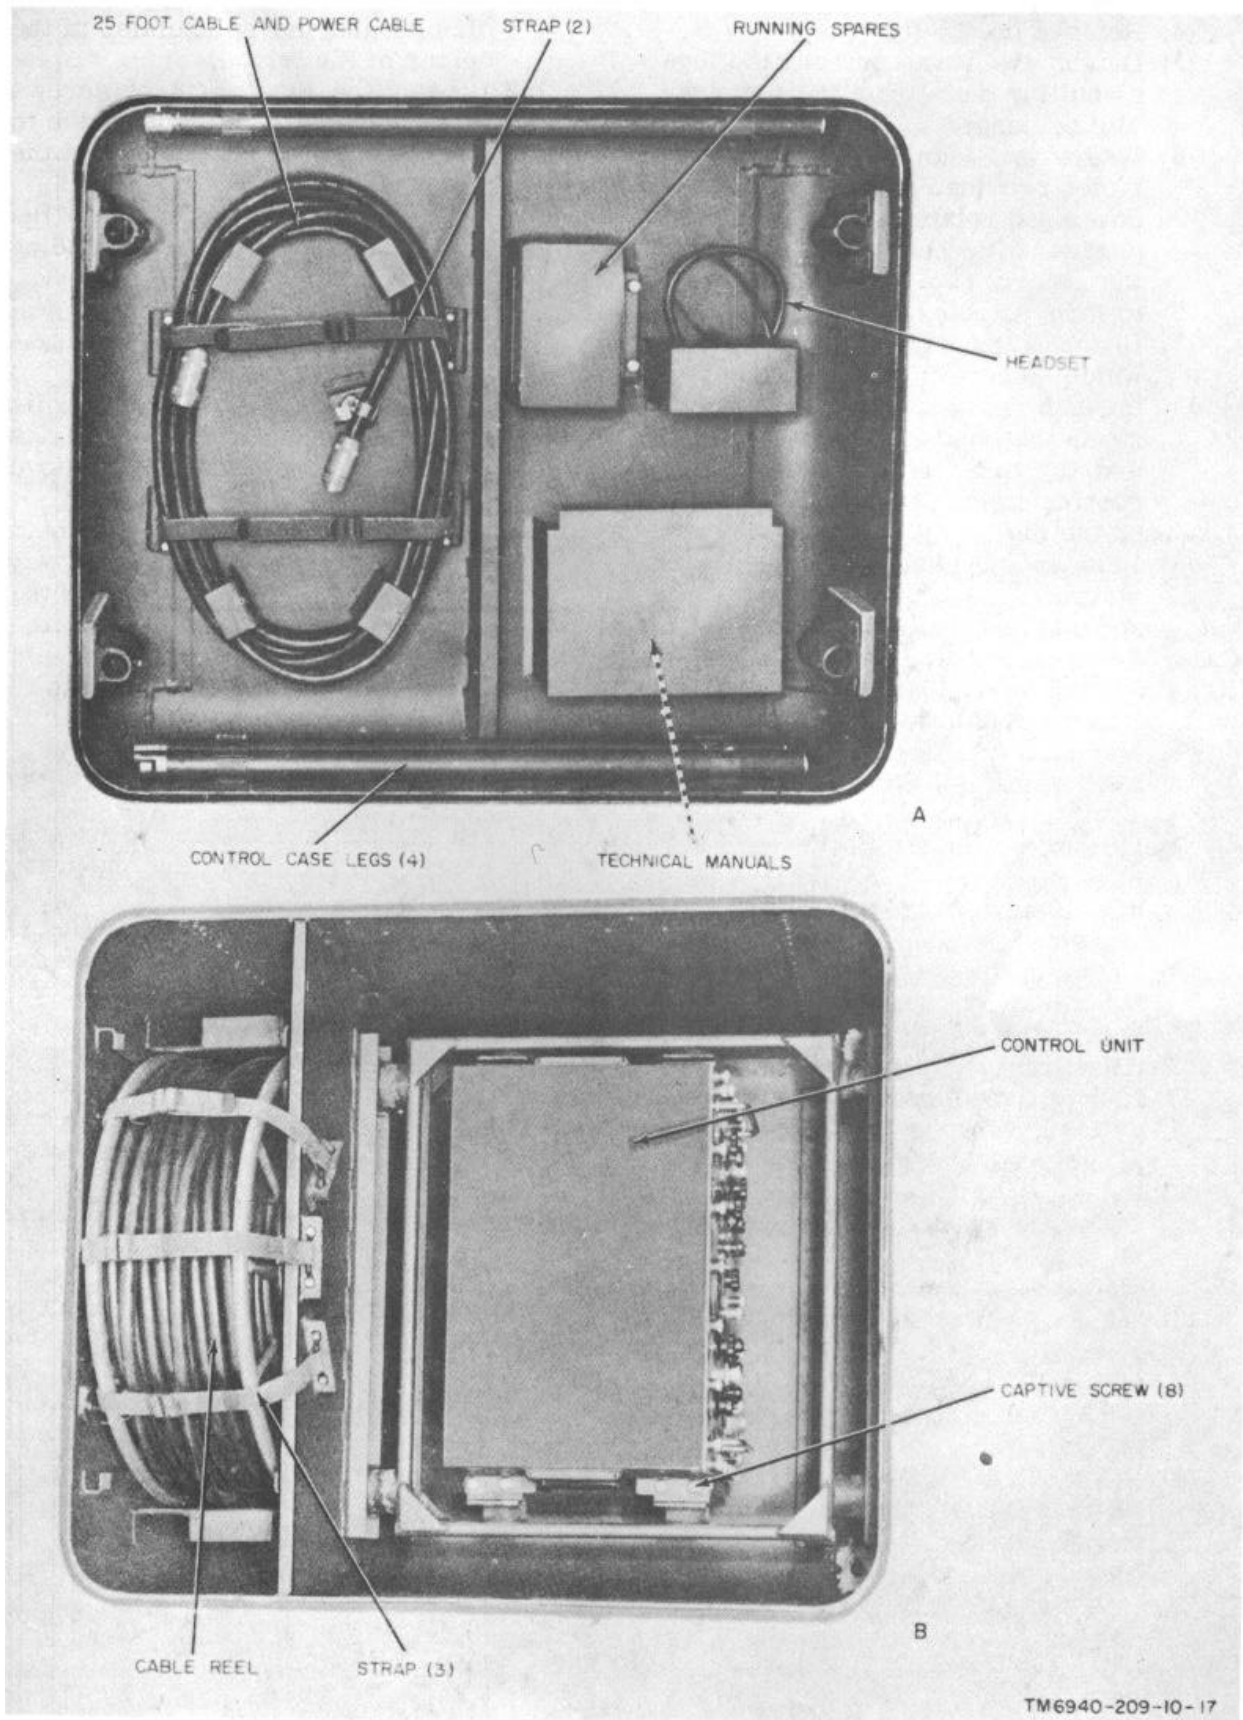
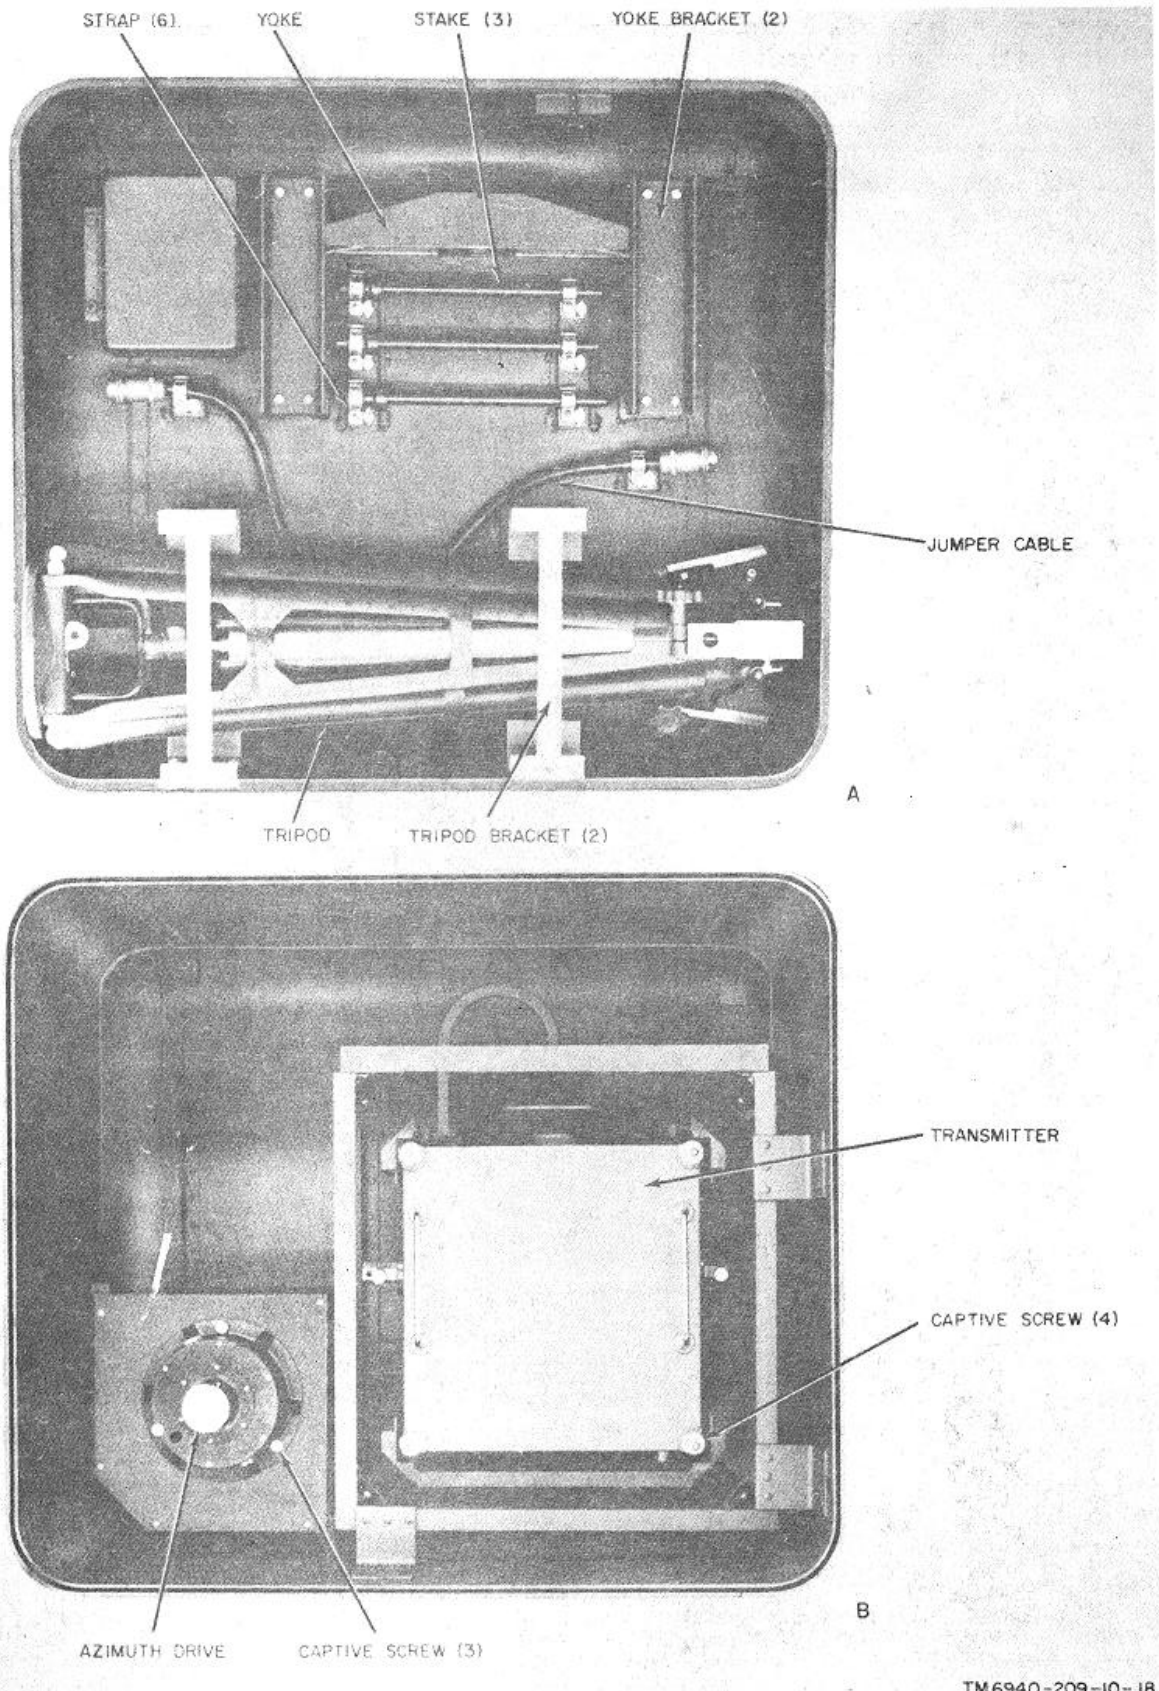

Figure 10. Case, Control CY-3149/ULT-T5 with contents.
Figure 11. Case, Transmitter CY-3148/ULT-T5 with contents.
c. *Removing and Assembling Contents of Case, Control CY-3149/ULT-T5* (fig. 10). Remove and assemble the contents of the control case as follows:
- (1) Move the control case as close to the desired operating location as possible.
- (2) Carefully remove the control case cover and set it, hollow side up, alongside the bottom of the control case.
- (3) Unfasten the three straps in the control case cover and remove the cable reel.
- (4) Remove the 25-foot cable.
- (5) Detach the four control case legs by pulling them from their spring-clip holders.
- (6) Insert the four legs into receptacles provided in the control case cover and rotate each leg slowly to engage with retaining pin. Stand the control case cover on the legs to form a table.
- (7) Unscrew the eight captive screws which secure the control unit to the control case. With assistance, grasp the control unit side handles and lift the control unit from the control case. Set the control unit on the table ((6) above).
- (8) Remove the headset and technical manuals.
*d. Removing and Assembling Content of Case, Transmitter CY-3148/ULT-T5 (fig. 11).* Remove and assemble the contents of the transmitter case as follows:
- (1) Move the transmitter case as close to the desired operating location as possible.
- (2) Carefully remove the transmitter case cover and set it, hollow side up, alongside the bottom of the transmitter case.
- (3) Unfasten the two tripod brackets by removing the four securing bolts; remove the tripod.